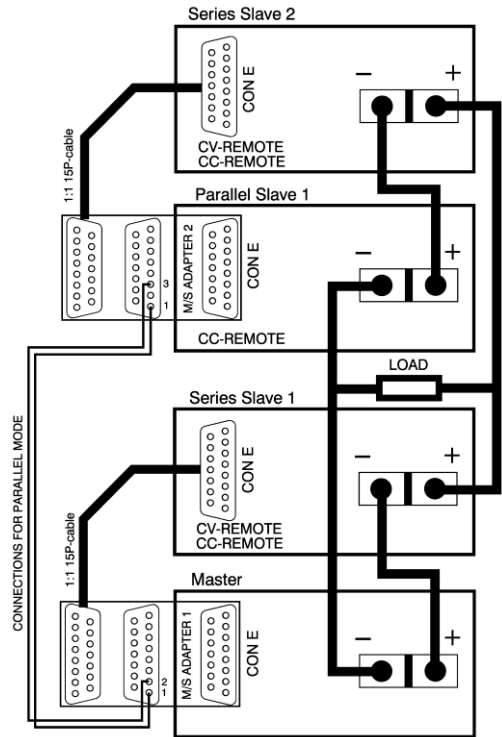

fig 5 - 12
- See fig. 5 - 12 for an example of how to connect 2 units in series in parallel with 2 units in series, controlled by 1 master.